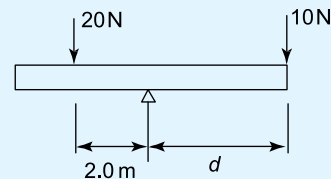

Figure 6.33
2. The distance d in Figure 6.33 when the beam is in equilibrium is: